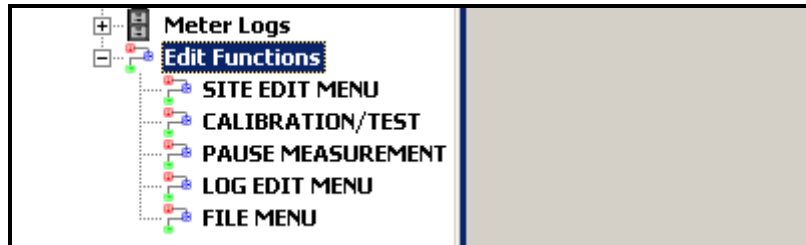
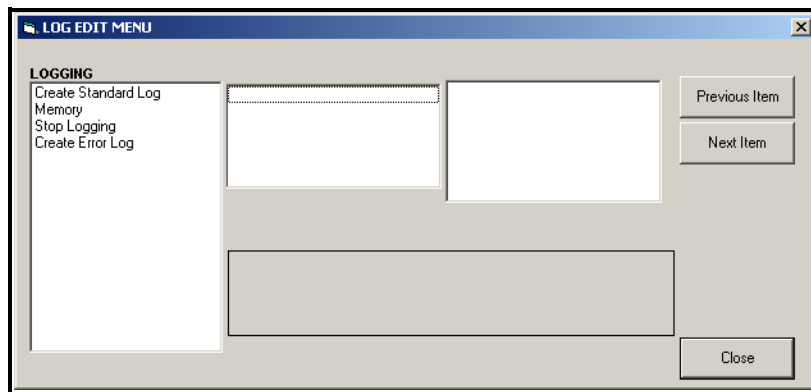

Figure 3-1: Edit Functions Menu for XMT868i with Logging Card
Figure 3-2: The *Log Edit Menu* Window
1. From the *New Meter Browser* in PanaView, expand the network tree and open the *Edit Functions* option (described on page C-6 of Appendix C, *Programming the XMT868i Using PanaView*). The menu will appear similar to Figure 3-1 below.
2. Double-click on the *Log Edit Menu*, as shown in Figure 3-1 above. The window appears similar to Figure 3-2 below.